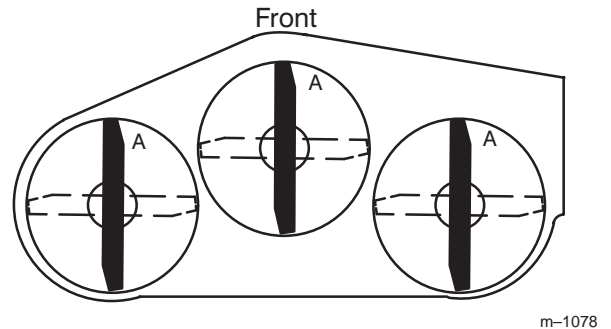
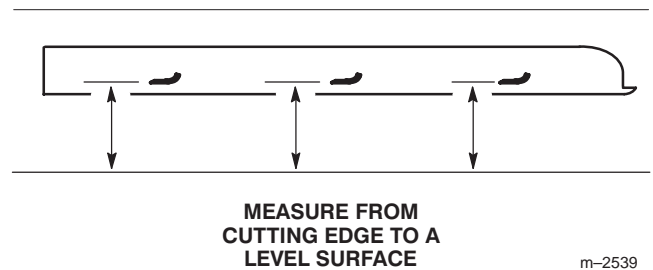

Figure 40
Figure 41
1. Rotate the blades until the ends face forward and backward (Fig. 40). Measure from a level surface to the cutting edge, position "A", of the blades (Fig. 41). Note this dimension.